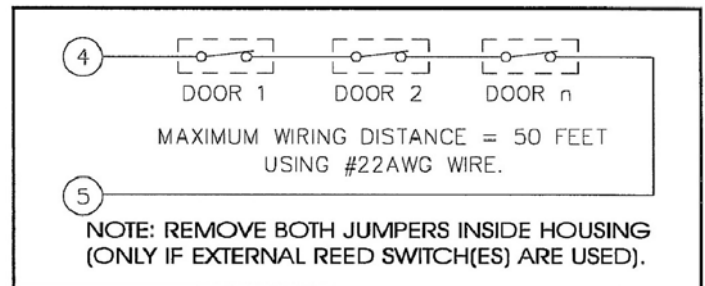

Fig. 3. Multiple door monitoring
**Reed Switch (Terminals 4 & 5).** Connect external reed-switch contacts to Terminals 4 and 5 and remove both jumpers. **Note:** If reed switches are wired in series as shown in Fig. 3, several doors may be monitored simultaneously. Using #22AWG wire, maximum wiring distance should not exceed 50 feet (15.24m).